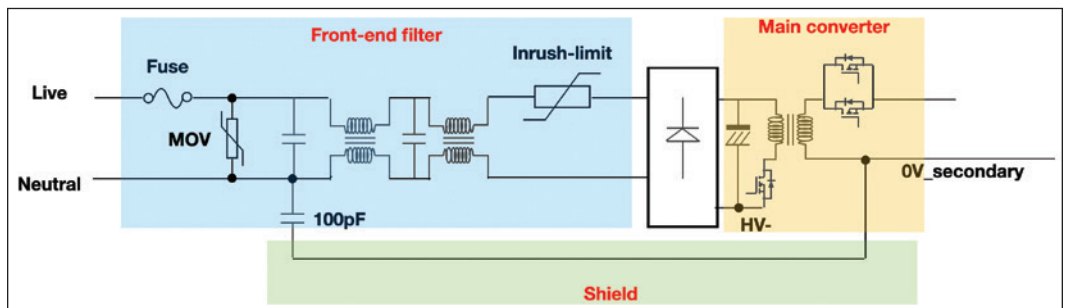

Figure 6: A simplified isolated power supply circuit
For chargers below 100 watts, the most popular topology is an active-clamped flyback converter. On the other hand, for chargers above 100W, the design of choice often involves an LLC with a PFC converter. Despite the topology specifics, we can generalize this type of isolated power supply as depicted in Figure 6.
2. It provides electrical field shielding when properly “grounded.” For manufacturing convenience, the ideal “grounding” point should be 0V_{ground} on the secondary side of the transformer. The other grounding point should be the earth point (if present). In the case of safety Class II products, where user protection from electric shock is achieved through two levels of insulation (double or reinforced) without the need for earthing, the shield is often connected to the neutral line via a small Y-class capacitor, as depicted in Figure 6.